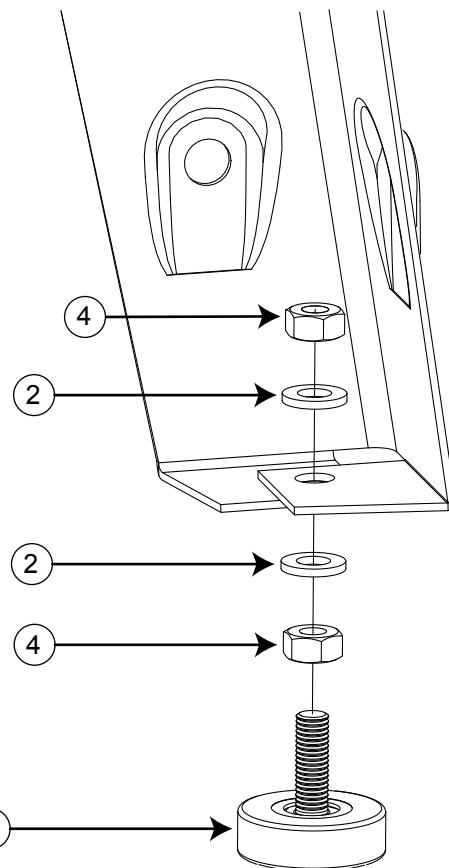

Fig. 9
9. Attach a foot to the bottom of each leg as shown in Fig. 9 by threading an M8 hex nut on each foot and then placing an M8 washer over the nut. Insert a foot into the hole at the base of each leg and then place a second M8 washer and thread a second M8 hex nut onto each foot. Do not fully tighten the nuts. The stand is now fully assembled.